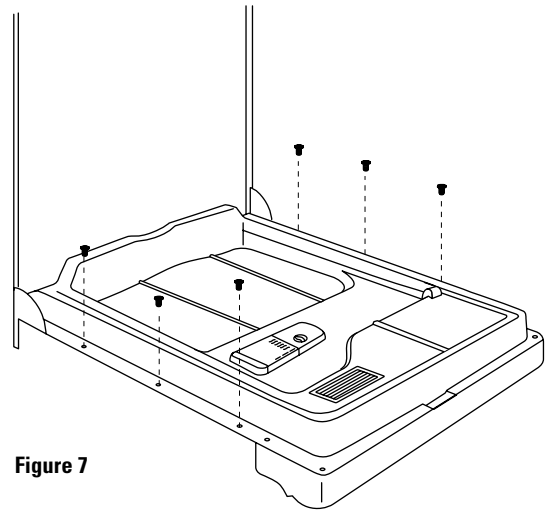

Figure 7
- Open the dishwasher door and reinstall the original 6 Phillips head screws to hold the inner door to the panel assembly (Figure 7).